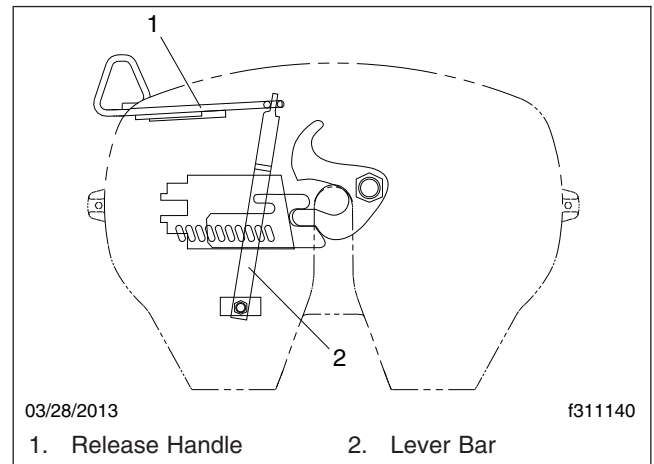

Fig. 3, Lever Bar and Release Handle Alignment
5. The lever bar and release handle must be in proper alignment. See **Fig. 3**. Compare the lever bar and release handle alignment to a new, or a properly operating lever bar and release handle. Replace any bent or misaligned lever bar or release handle.